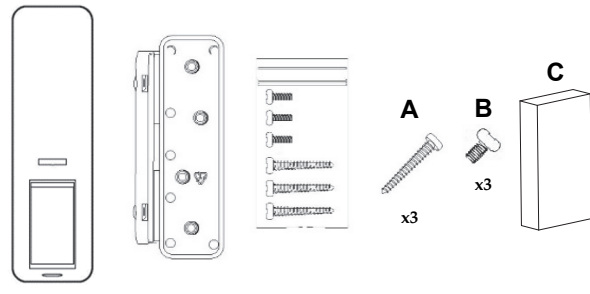

Figure 1
Step 1: Preliminary Considerations (see Figures 1 and 2)